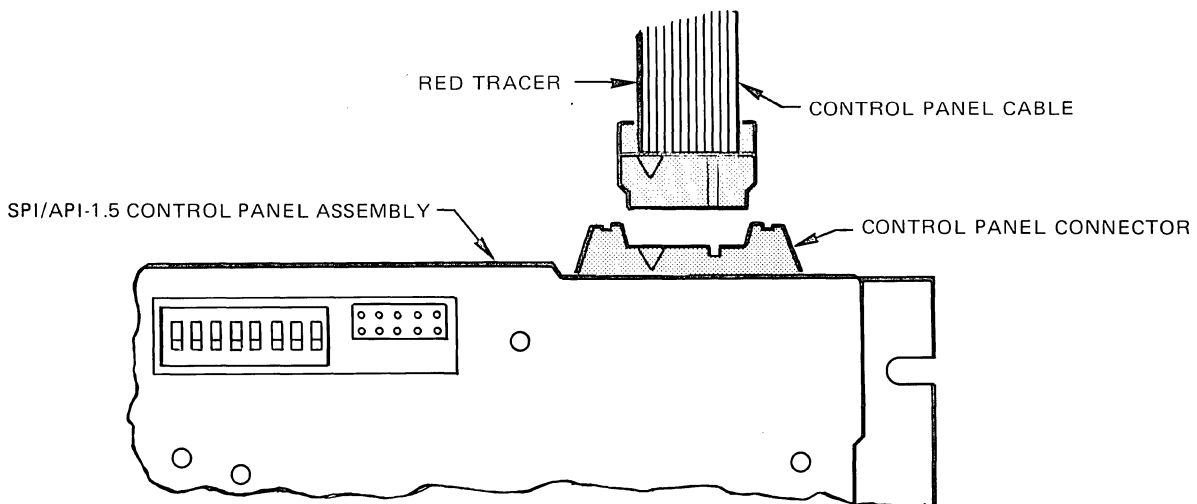

Figure 4-13. SPI and API CONTROL PANEL CABLE
- 5) Note carefully how the control panel cable connector is oriented (see Fig. 4-13). This connector is not keyed, and can easily be installed backwards. (This will not damage the machine, but will cause improper operation; among other things, the power indicator will not light when power is applied.)